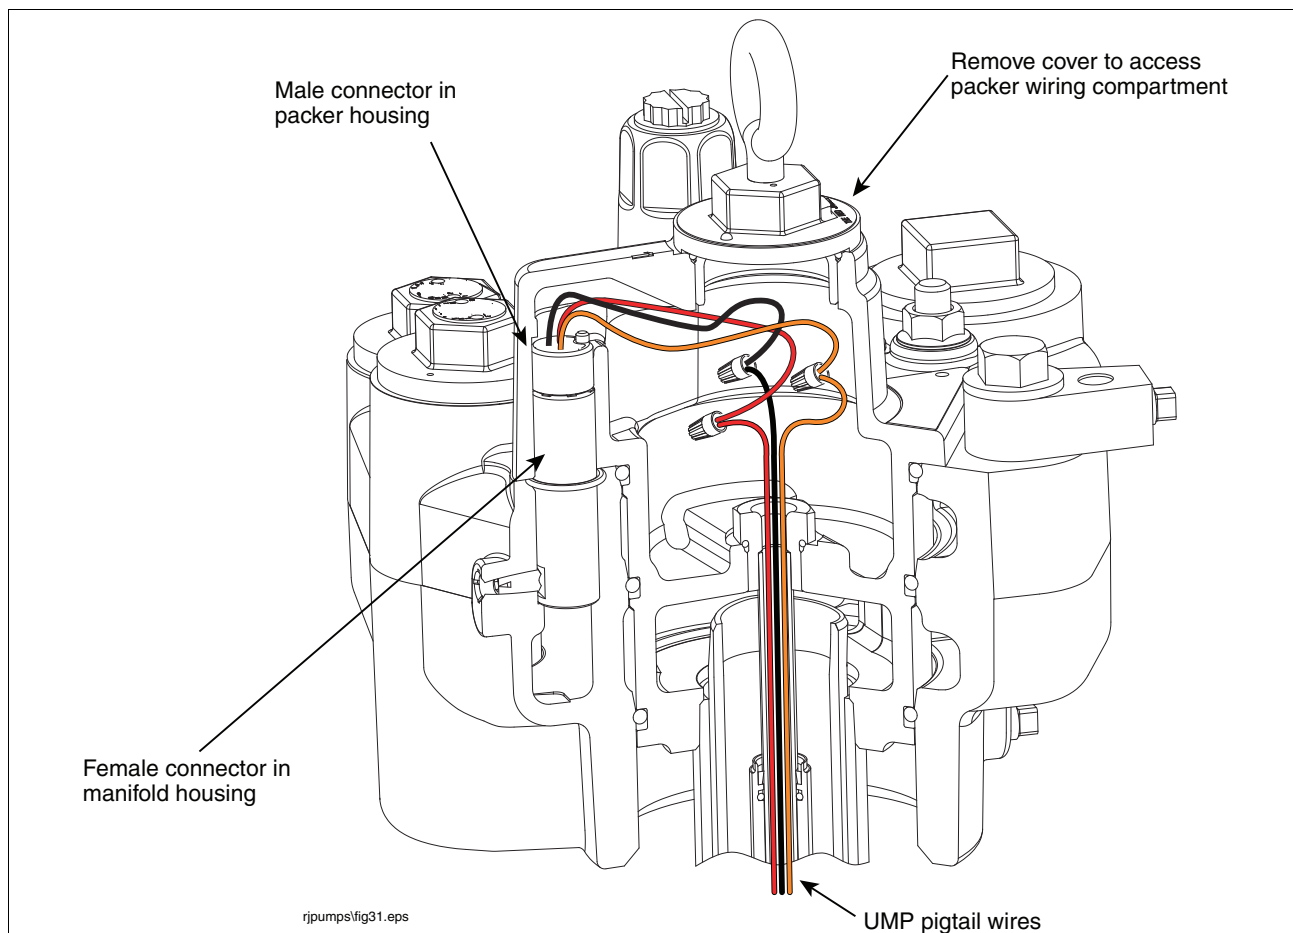

Figure 14. Connecting UMP To Packer Wiring
13. Connect like colored wires from the UMP to like colored wires from the male connector with wire nuts. When finished connecting the wires, neatly coil them inside the packer's wiring compartment (see Figure 14).